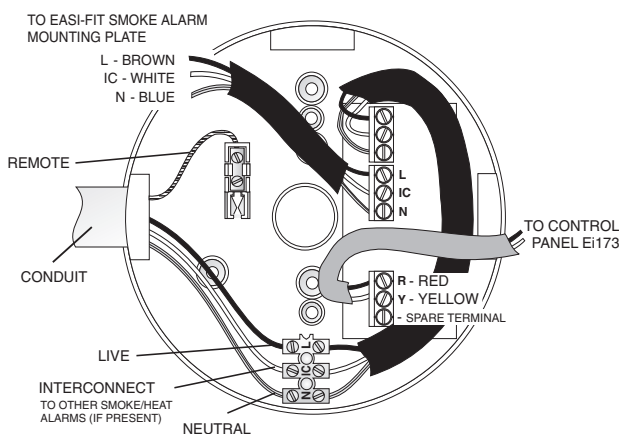

Figure 1
6. Figure 1 shows the connections. Connect the incoming live, neutral, and interconnect (from other smoke alarms if present) to the pre-wired connector block. The Pattress does not require an Earth. The three wires for connecting to the smoke alarm mounting plate are already wired to the pattress.